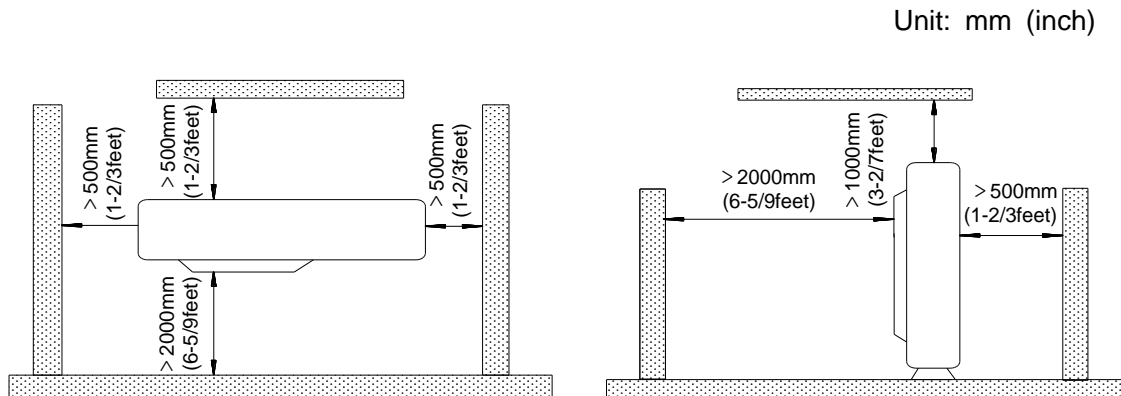

Figure 3-2-1
(1) Install the outdoor unit in a place where it will be free from being dirty or getting wet by rain as much as possible.
(2) Install the outdoor unit where it is convenient to connect with the indoor unit.
- (3) Install the outdoor unit where the condensate water can be drained out freely during heating operation.
- (4) Do not place animals and plants in the path of the warm air.
- (5) Take the air conditioner weight into account and select a place where noise and vibration are small.
- (6) Install the outdoor unit where is capable of withstanding the weight of the unit and generates as less noise and vibration as possible.
- (7) Provide the space shown in Figure 3-2-1, so that the air flow is not blocked. Also for efficient operation, leave three of four directions of peripheral constructions open.